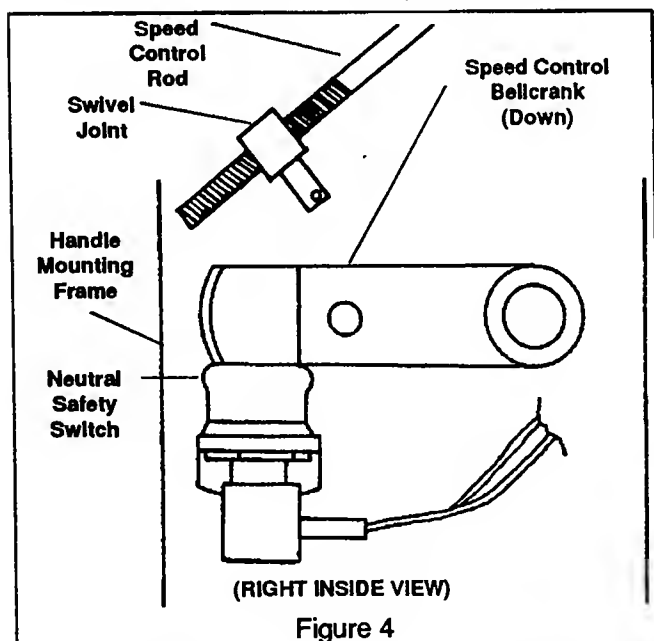

Figure 4
- b) Insert end of swivel joint through hole in speed control bellcrank and secure with hair pin. Rotate bellcrank forward and down (See figure 4).